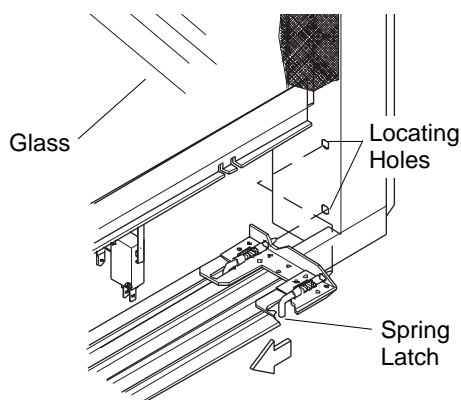

Figure 32 - Removing Louver
1. To remove the louvers, simultaneously pull both top end spring latches towards the center of the appliance until they are disengaged from locating holes. Repeat for bottom end spring latches and pull outward. Reverse the procedure to install louvers back onto the appliance (see Figure 32).